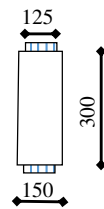

Fig. 3
- A timber beam 150 X 300mm deep is reinforced with two 125 X12mm thick steel plates bolted firmly along each edge as shown in figure 3. The safe stress in the steel is 140N/mm^2 and that in timber is 7N/mm^2 . Calculate the moment of resistance of the beam.